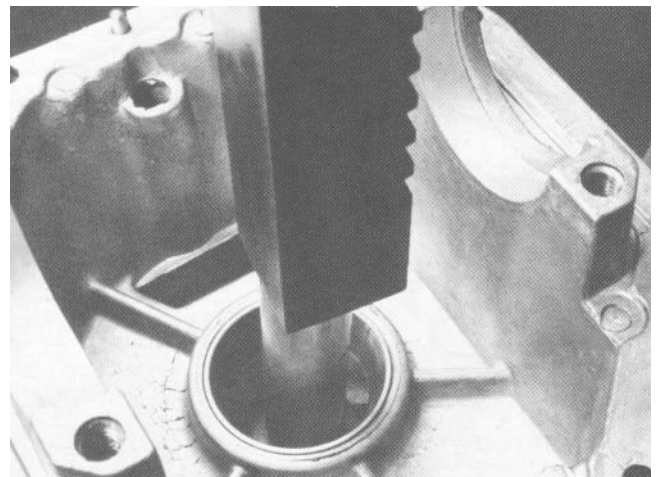

Figure 35
16. To remove the outer pinion bearing cup, position the housing in a press. Place a press plate of the proper size against the cup. Press the cup out of the housing (Fig. 35).